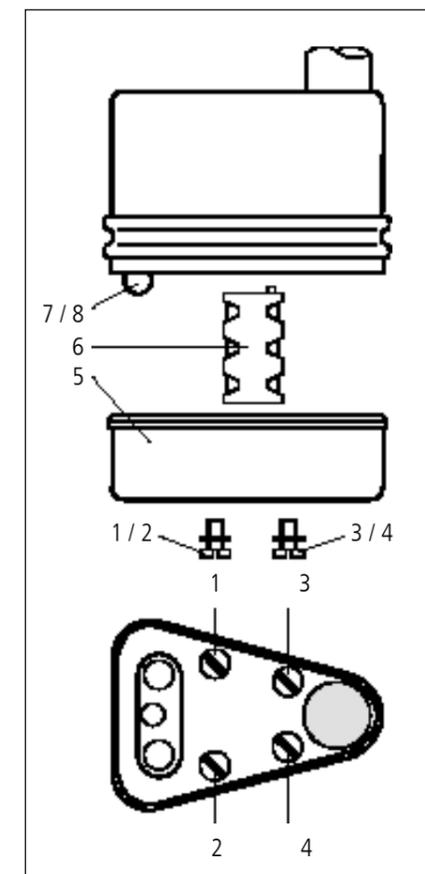

Fig. 4: Exchange of batteries/lamp
3.2 Exchange of lamps (see **Figure 4**)